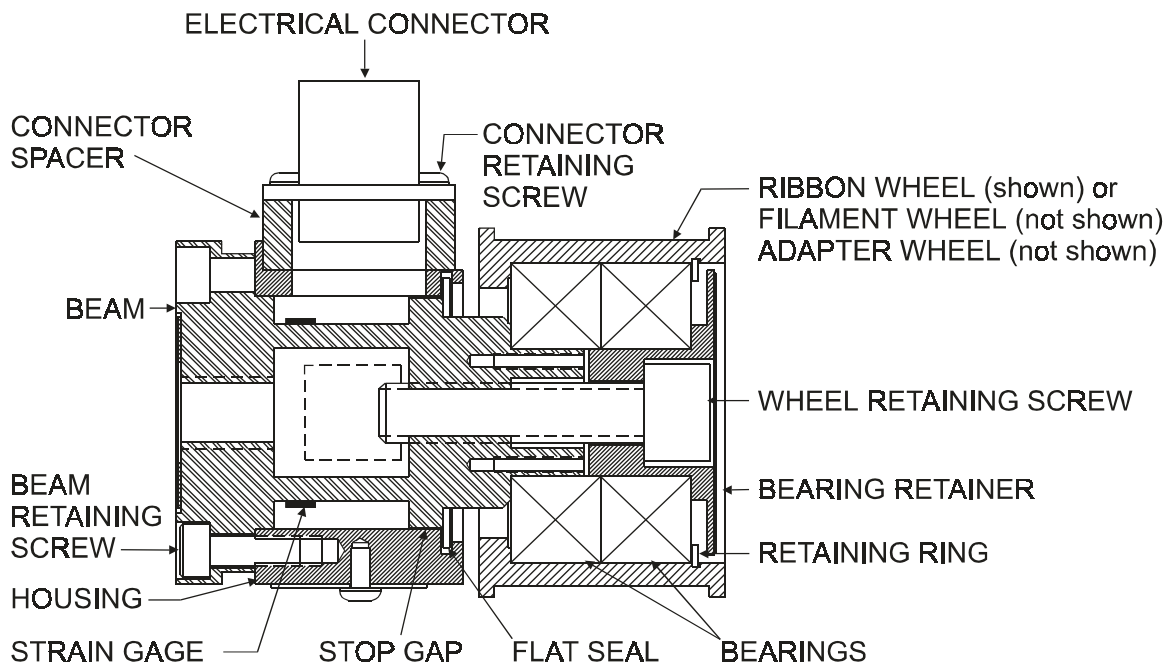

Figure 1 - CUT-AWAY VIEW OF RFA TRANSDUCER
1.2 CONSTRUCTION AND MECHANICAL OPERATION (see Figure 1)